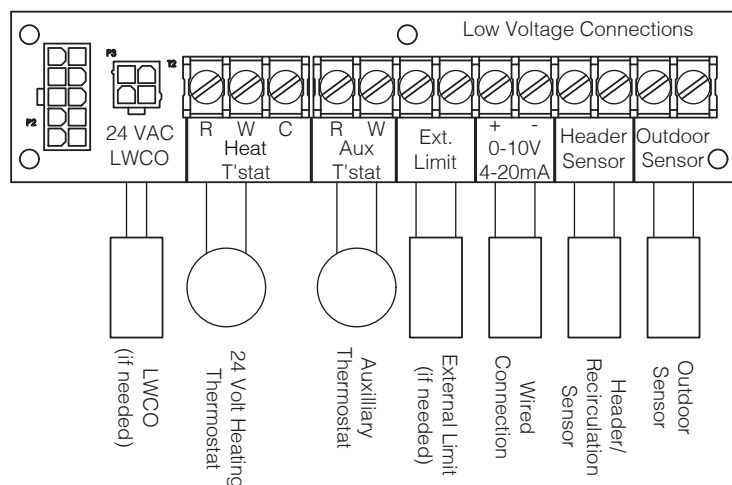

Figure 13-3: Low Voltage Connections
- Connect jumper, time of day clock or momentary push button to "Aux T-Stat" terminals per Figure 13-3.
- Connect recirculation temperature sensor to "Header sensor" terminals per Figure 13-3.
NOTICE: Boiler is equipped with a UL 353 listed high water temperature limit function. This limit provides boiler shutdown in event boiler water temperature exceeds set point of control. Certain local codes require an additional water temperature limit. If necessary, install an additional water temperature (Honeywell L4006 Aquastat). Wire as indicated in Figure 13-3.
- All low voltage field connections to boiler are made on Low Voltage Connections terminal strip (see Figure 13-3) located on left side of bottom panel. Route all low voltage wiring through conduit knock out holes located on left side in front of terminal strip.